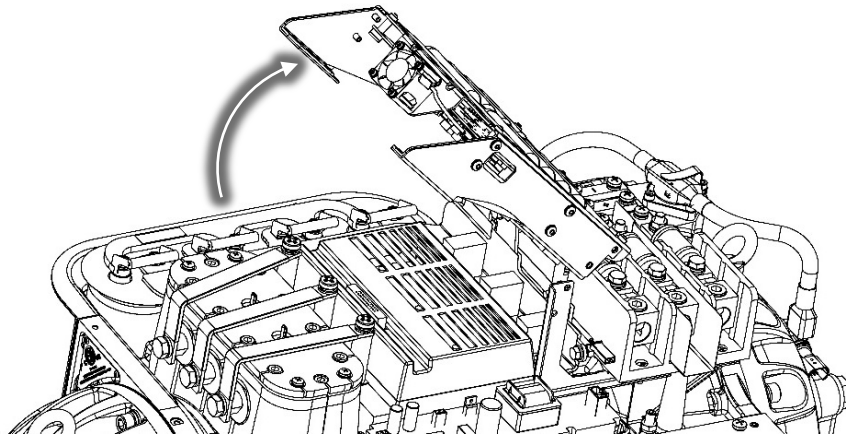

Figure 4 – Soft Start Lift
12. Lift the Soft Start and turn it over, placing it board-side up on the AC Bus Bars. Refer to Figure 4 (Soft Start Lift).